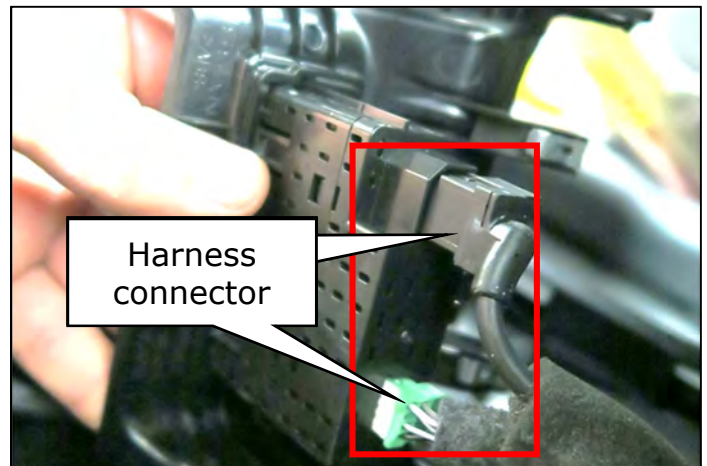

Figure 32
33. Slide the USB finisher out of position and disconnect the (2) harness connectors. (Figure 32)